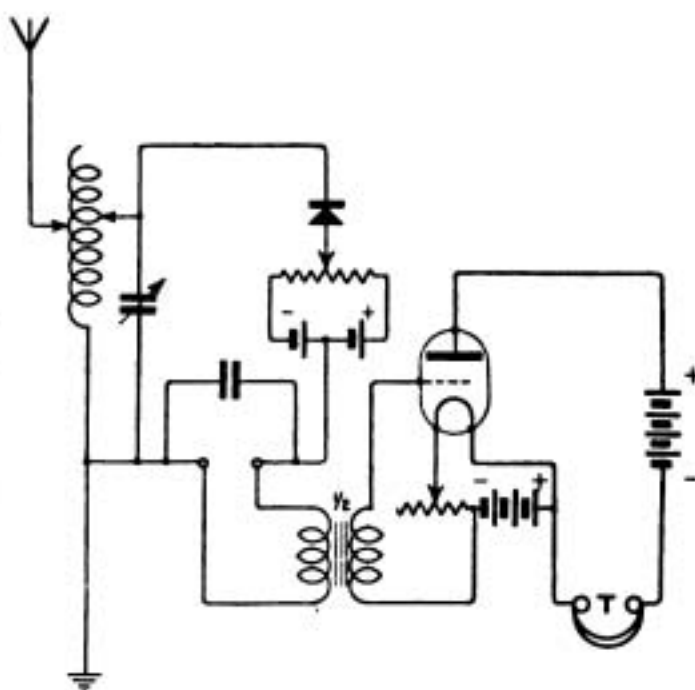

Fig. 5
G.A.R. (Small Heath).—(1) The circuit is quite O.K., but the frame should preferably be considerably larger for only two valves. Make it with sides about 3' long.
(2) For 0.0005 mfd., two foils with an overlap of 5 x 1 cms. For 0.001 mfd., three foils with the same overlap.
QRU (Newcastle).—(1) Circuit is given in Fig. 5.